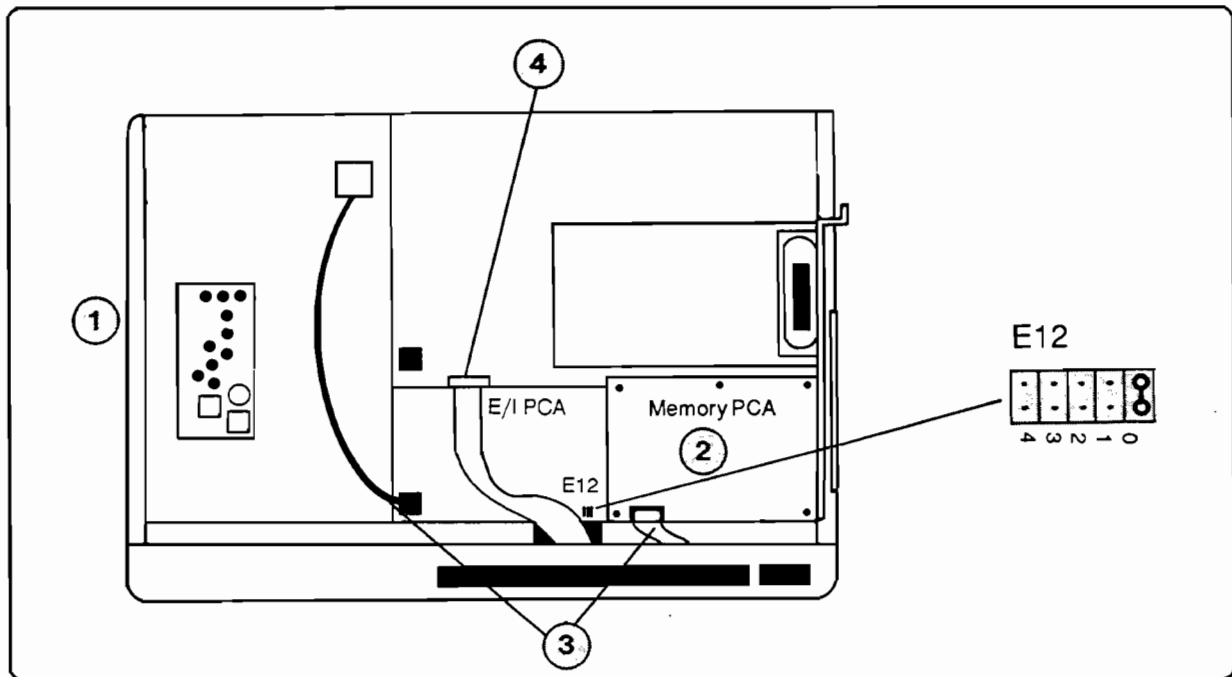

Figure 6-30. Memory and E/I PCA
2. Remove the Memory PCA mounting screws (five ea #1 Phillips long shank - see Figure 6-30).
2. Remove the Memory PCA (see Figure 6-30).
Replacement: Reverse the above. When reinstalling the E/I PCA, make sure to place the E12 jumper in the zero (0) or right hand position as shown in Figure 6-30.